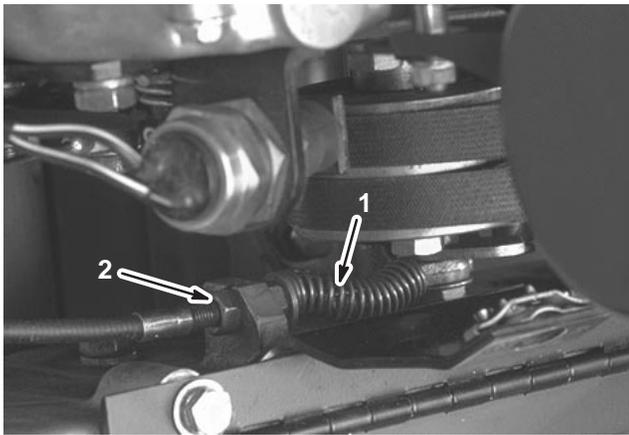

Figure 43
- Loosen the retainer securing the V-belt cover and pivot the cover open (Fig. 43).
3. To increase the cable tension, loosen the front cable jam nut and tighten the back cable jam nut (Fig. 43) until a force of 3 to 5 lb. is required to engage brake. Measure the force at the lever knob. Do not over adjust it so that the brake band drags.